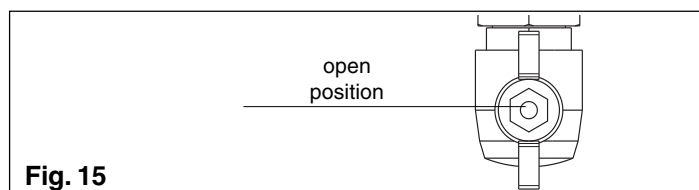

Fig. 15
- open the gas tap by turning it anti-clockwise (fig. 15)